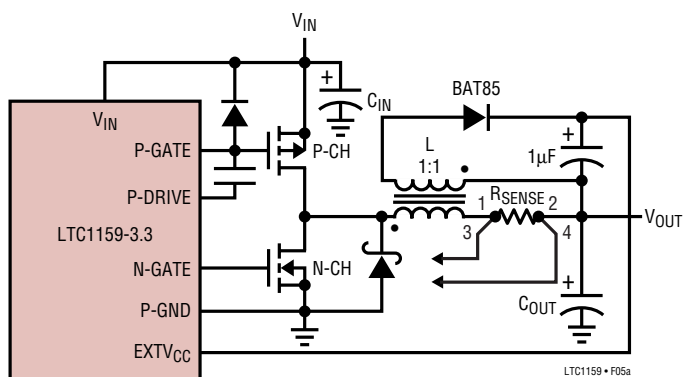
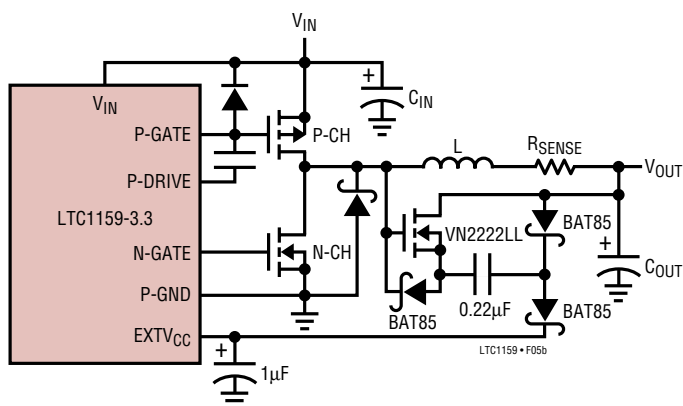

Figure 5a. Inductive Boost Circuit for EXTV_{CC}
Figure 5b. Capacitive Charge Pump for EXTV_{CC}
3. EXTV_{CC} Connected to an Output-Derived Boost Network. For 3.3V and other low voltage regulators, efficiency gains can still be realized by connecting EXTV_{CC} to an output-derived voltage which has been boosted to greater than 4.5V. This can be done either with the inductive boost winding shown in Figure 5a or the capacitive charge pump shown in Figure 5b. The charge pump has the advantage of simple magnetics and generally provides the highest efficiency at the expense of a slightly higher parts count.